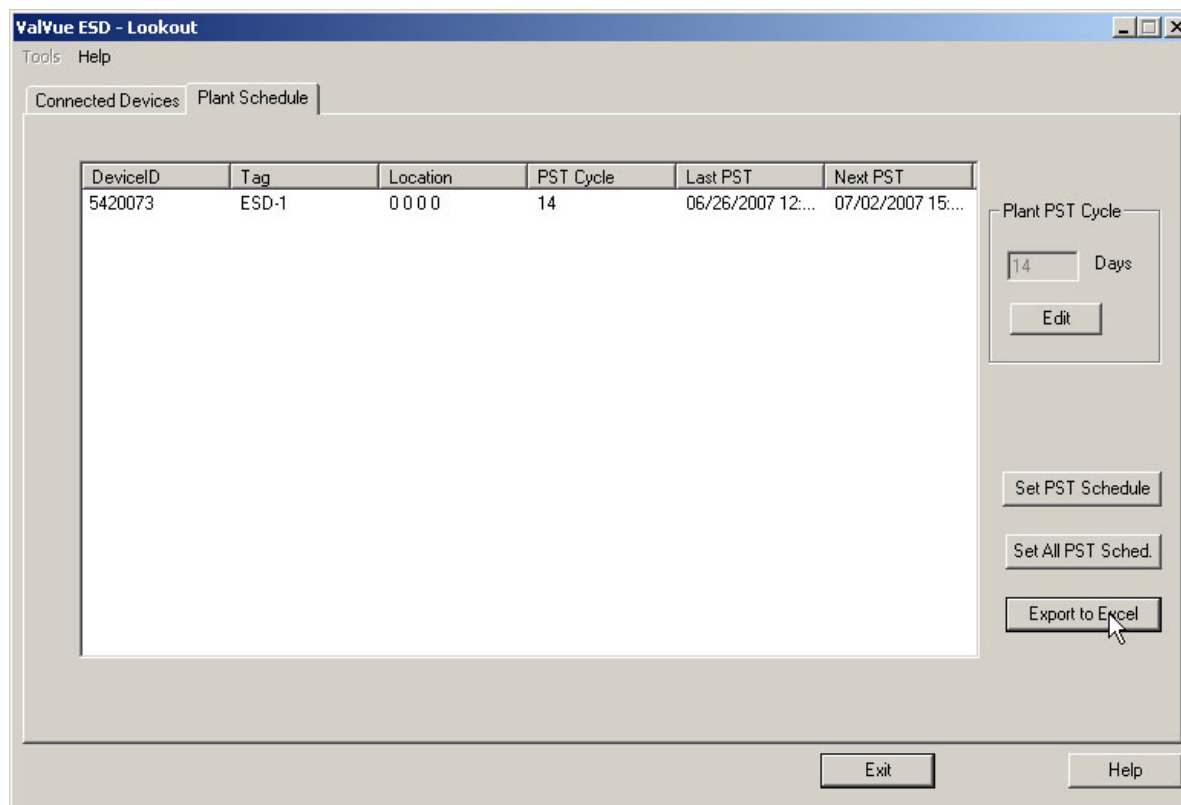

Figure 45 - Selecting Export to Excel
- Click **Export to Excel** (*Figure 45*).